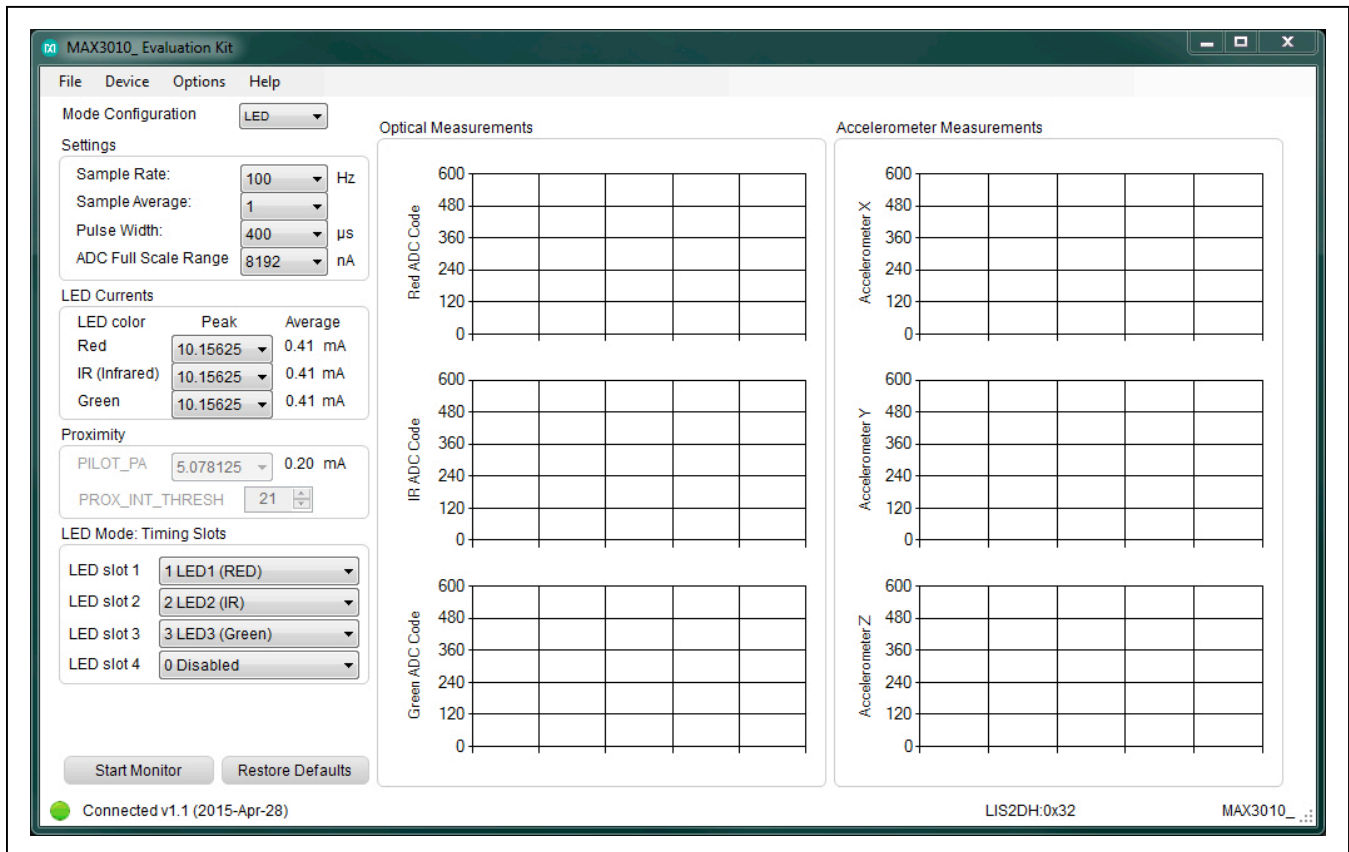

Figure 1. MAX30105 EV Kit Main Window
- 5) Open the MAX30105EVKit.exe and verify that the EV kit is connected by observing the status bar at the lower left corner of the GUI. See Figure 1.